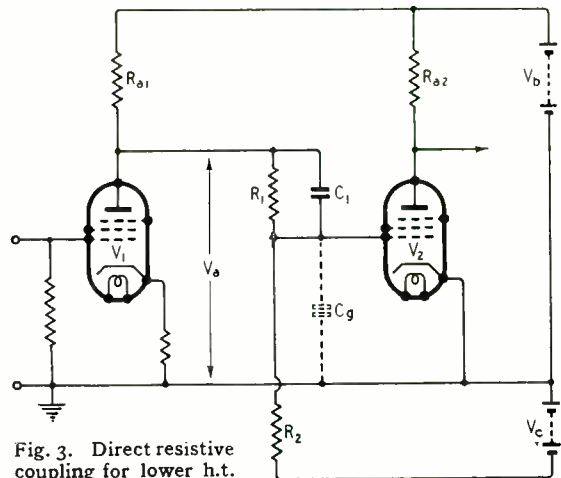
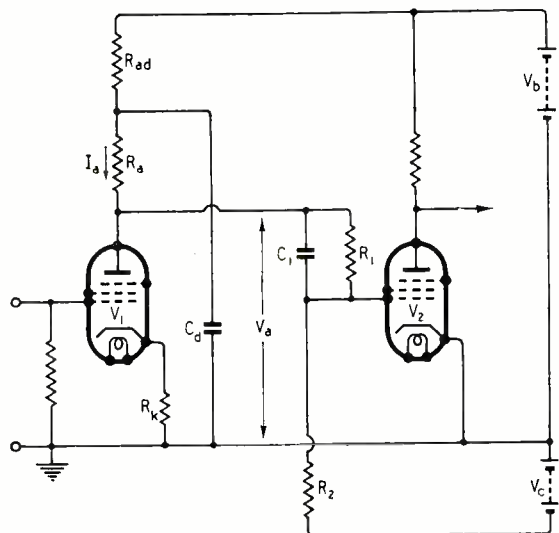

Fig. 3. Direct resistive coupling for lower h.t.
Fig. 5. A direct coupling used in wideband amplifiers.
The disadvantage of this method of coupling is the high value of h.t. supply potential ( $V_b$ ) required. Provided the grid-cathode bias of  $V_2$  and  $V_3$  is small compared with  $V_a$ , the effective supply potential for  $V_2$  and  $V_3$  is only  $(V_b - V_a)$ , and this must be sufficient to supply the voltage drop across  $R_{a3}$  (or  $R_{a2}$ ), and the anode potentials of  $V_2$  and  $V_3$ . It would be more convenient if we could arrange to operate the cathode of  $V_2$  at earth potential; this may be done with the circuit of Fig. 3.
In Fig. 3 a negative supply of  $V_a$  volts is used. If  $V_2$  is to be operated at zero bias, it turns out that  $(V_a R_1 = V_a R_2)$  is the condition which must be satisfied. In fact the grid of  $V_2$  will nearly always be
In purely low frequency applications, the loss of gain introduced by the coupling may be important and two means have been found for overcoming this disadvantage; these are shown in Fig. 4(a)1 and (b)2. At (a) a gas discharge stabilizer tube has been substituted for  $R_1$  of Fig. 3. As such a tube has the property of maintaining a nearly constant potential across its terminals, it follows that any changes at the anode of  $V_1$  will be transferred without alteration in amplitude to the point P. As the point P will have to be negative to earth by the bias of  $V_2$ , a series resistor,  $R_g$ , to a negative supply,  $V_c$ , is needed to maintain sufficient current in the stabilizer to maintain the discharge. It is not difficult to see that the minimum safe value of  $V_c$  is given by:
One other3 rather interesting coupling is very useful for wideband direct coupled amplifiers. This is a variant on the ordinary resistive coupling of Fig. 3, and is shown in Fig. 5. It is applicable only when  $V_1$  is a pentode as shown. In wideband amplifiers it is essential to use a low value of anode load, in order that the inevitable stray shunting capacitance shall produce the usual droop in the high frequency response at some conveniently high frequency. If  $R_{g1}$  in any of the previous circuits is made small, then  $V_a$  would assume a value approximating to the full h.t. potential. This involves a greater loss in the coupling than is the case with Fig. 5.
Consider now the circuit of Fig. 5 at some high frequency, but not so high that the stray capacitance has produced noticeable loss of gain. At such a frequency  $C_d$  is a virtual short-circuit, and so is  $C_1$ . Thus the load on  $V_1$  is  $R_a$ , and all the signal voltage across  $R_a$  is transmitted to the grid of  $V_2$  through  $C_1$ . Now consider the circuit at zero frequency. The total load on  $V_1$  is  $(R_a + R_{ad})$  so that  $V_a$  may be made relatively low compared with  $V_b$ . At the same time any zero frequency signal is transmitted to  $V_2$  with a loss of  $R_2/(R_1 + R_2)$ . If  $(R_a + R_{ad})$  is small compared with  $r_a$  of  $V_1$ , the gain of  $V_1$  will be proportional to the anode load. If the gain times the coupling loss can be made constant at all frequencies where loss of gain due to stray capacitance is negligible, a very advantageous result will have been secured. In the arrangement shown we may take the signal current ( $I_a$ ) in  $V_1$  to be constant with constant input ( $v$ ), and in passing we see that
The circuit of Fig. 5 is in fairly wide use now, and one of its main advantages is that  $R_{ad}$ ,  $C_d$ , form a decoupling network which reduces the injection into the h.t. supply of the higher frequency components of the signal current in  $V_1$ . This is very useful in preventing instability and undesired feedback from one stage to an earlier one via a common impedance in the h.t. supply.
**Construction.**—There is little to add to the constructional data on the main amplifier given in the August issue, except perhaps to explain that the purpose of the sub-chassis screen, shown in Fig. 3, is to prevent feedback from the anode connections of the output valves to the input of the amplifier. It should extend downwards to the full depth of the chassis.
Imagine we had a filter consisting of an infinitely large number of identical sections. If that is too difficult, imagine we had a thousand million. The attenuation would be so great that whatever was connected to the far end would make no noticeable difference to the input end. Reckoned between the input terminals, that filter would have a certain impedance, regardless of the load impedance. Suppose for example, measurement showed it to be  $500\Omega$  resistance (Fig. 3(a)). If the first section or two, or even a dozen, were removed, the total number left would still, to a high degree of approximation, be a thousand million, so their input impedance would be  $500\Omega$ . Therefore a  $500\Omega$  resistor could be substituted for them at the output of the few front sections without making any difference at the input of those few (Fig. 3(b)). They would in every way be the same as if the nearly-a-thousand-million were still there. If, then, we make the load  $500\Omega$  resistance, the filter calculation is quite easy. Alternatively, if we are given a certain load impedance (not necessarily a pure resistance) it is advisable to design the filter so that that is its *characteristic impedance*†—i.e. the input impedance of an infinitely long chain; symbol  $Z_0$ , or (if resistive)  $R_0$ .
Fig. 3. If the filter chain is infinitely long, its impedance measured at the input terminals depends on itself only (a). An impedance of this value (called  $Z_0$ ) can therefore be used to simulate an infinite chain (b) and the impedance will be the same as this at the input to every section.
Fig. 3 whether we knocked off one, two, three, four, or any practical number of sections; so long as we terminated them with  $Z_0$  the input still looked like  $Z_0$ .